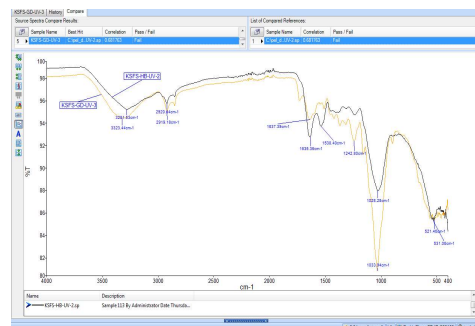

Figure 2: Overlaid spectra of sample HB and sample GD
In the following spectrum (Figure 2) the peaks observed at 1035cm^{-1} and 1635cm^{-1} most likely indicate the presence of an amine (C-N), the two peaks visible at 2950cm^{-1} and 2850cm^{-1} correspond to -CH stretch vibrations of fatty acid methylene residues (2).